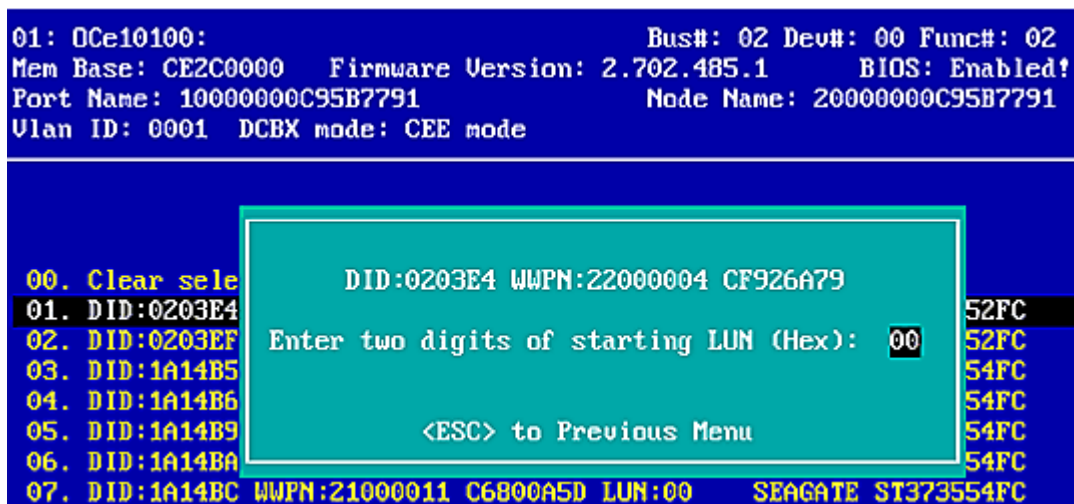

Figure 5-7 LUN Listing Screen
4. If you select a device, you are asked for the starting LUN. Use the up and down arrows to enter the starting LUN in hexadecimal format and press **<Enter>**. (Figure 5-7). The starting LUN can be any number from 0 to 255.